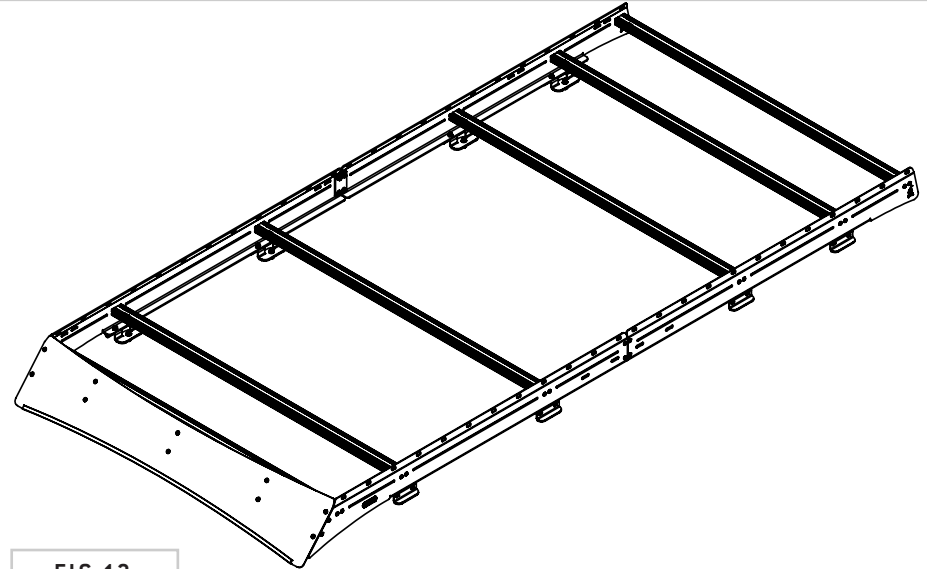

FIG 12
**4.1 Layout Crossbar Locations:** Position the crossbars in your desired locations, loosely threading in the **1/4-20 Flange Head Screws** to hold in place (FIG 12+13).